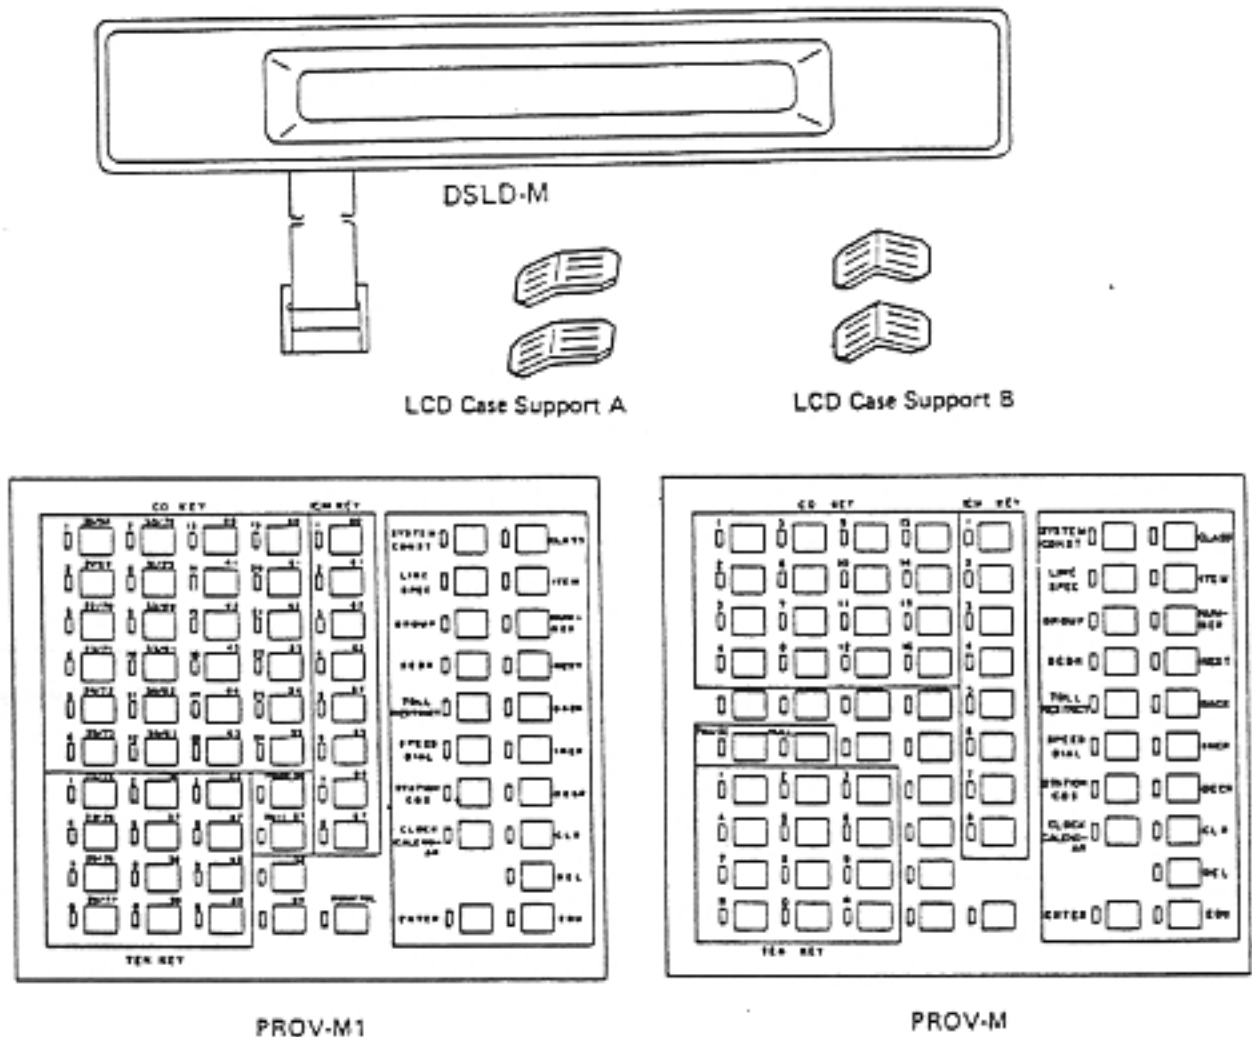

Figure 3.11.3.4.(4)(b)(i) Components of DSLD-M1
- Figure 3.11.3.4.(4)(b)(i) shows case supports A and B.